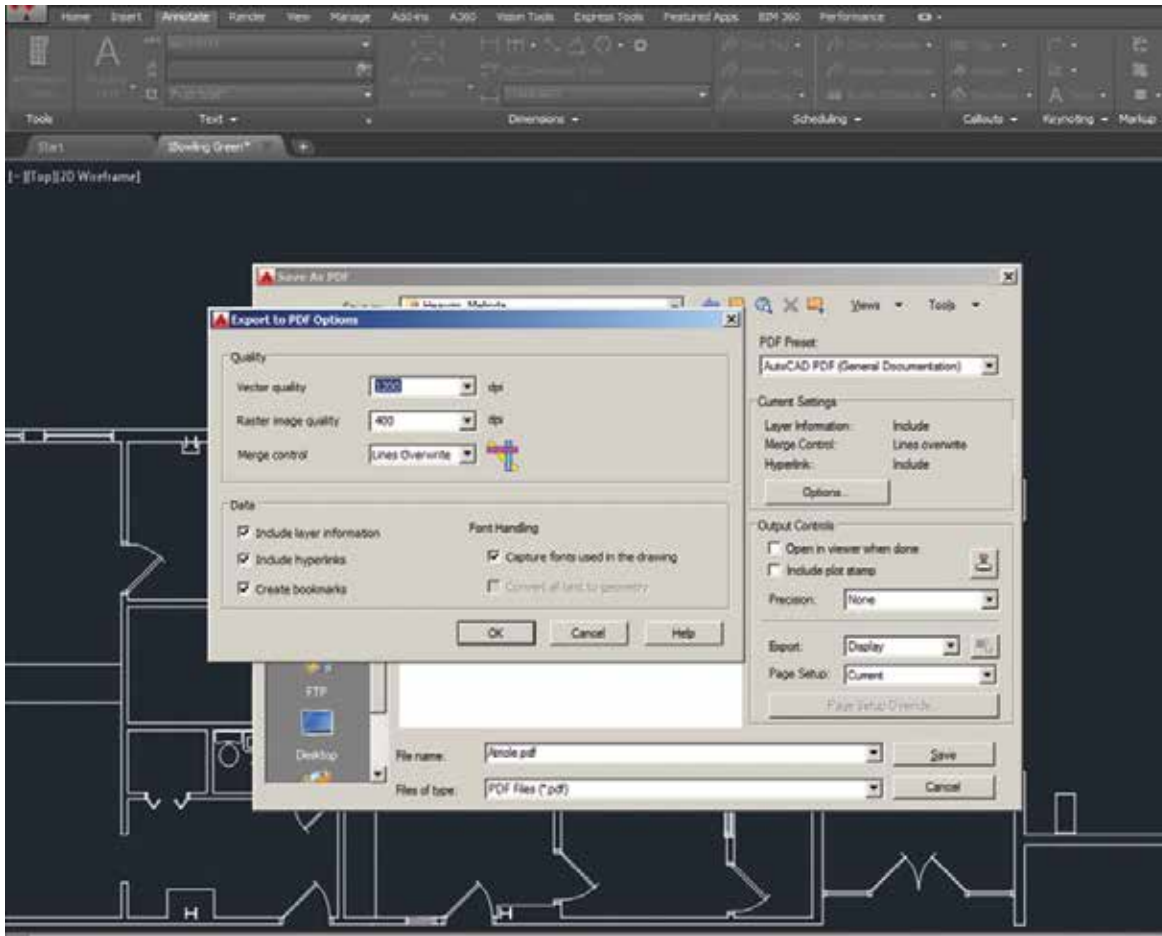

Figure 5: Export to PDF options
- Export model space or a single layout to a PDF file using the PLOT or EXPORTPDF command (see Figure 5).